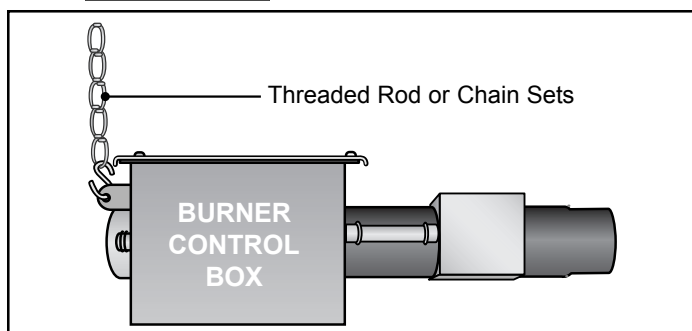

Figure 3-2
10. Mount burner control box level and be sure that the burner sight glass is visible from the floor. Refer to figure 3-2.